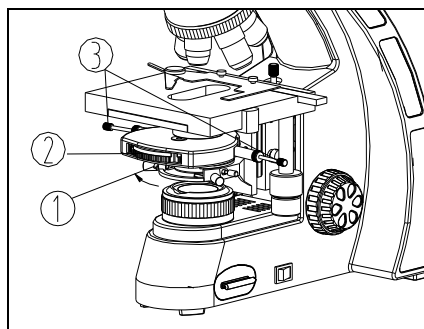
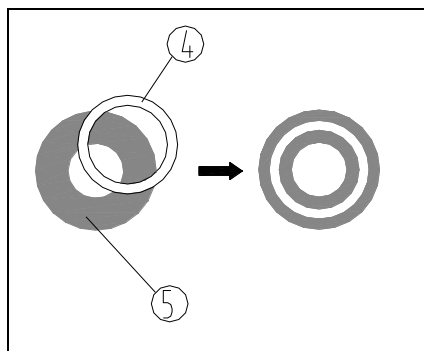

Fig. 27
Fig. 28
2. Rotate the phase contrast ring (2) to “BF” position in bright field observation. When it sounds “ka-da” in rotating, it indicates that one diaphragm or hole is rotated into the center of optical path (see Fig. 27).
In phase contrast microscopy observation, slide the aperture diaphragm lever ① to the most left as the direction of the arrow pointed (always keep aperture diaphragm at maximum). (See Fig. 27)
3. Confirm the corresponding phase ring (in phase contrast objective) and halo (in phase contrast disc ②) are moved into optical path.
4. Adjust centering telescope to get a clear image of phase ring and halo in field of view (see Fig. 28).
5. Center by phase contrast adjusting lever ③ until halo ④ center overlap the phase ring center (see Fig. 27, Fig. 28).